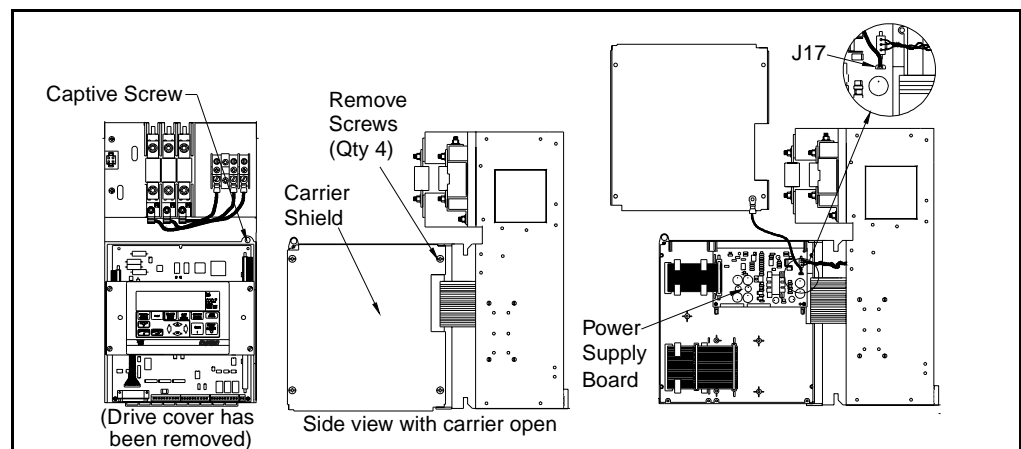

Figure 2.1 – Removing the OIM Carrier Shield
Step 4. Loosen and remove the four screws that attach the shield to the back of the OIM carrier. See figure 2.1.